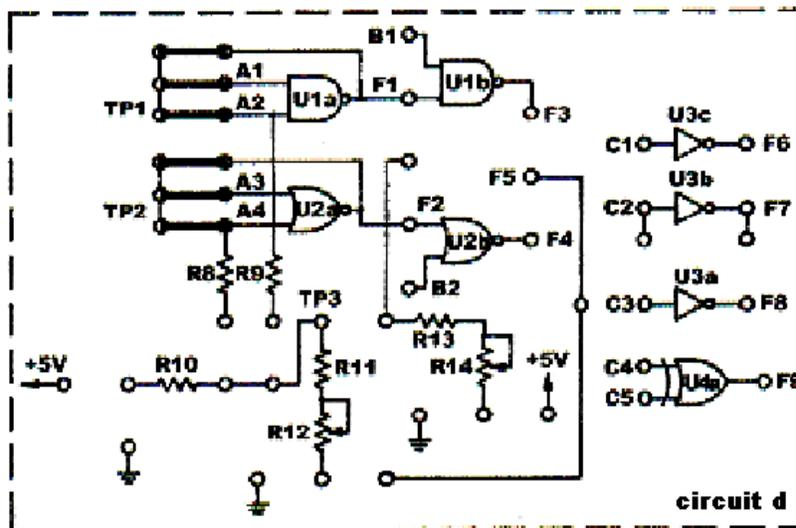

Fig. 1-3 (a)
2. Using U2a in the circuit of Fig. 1-3 (a), connect the input to the output. Measure the Voltage at A3 and F2 with the multimeter.